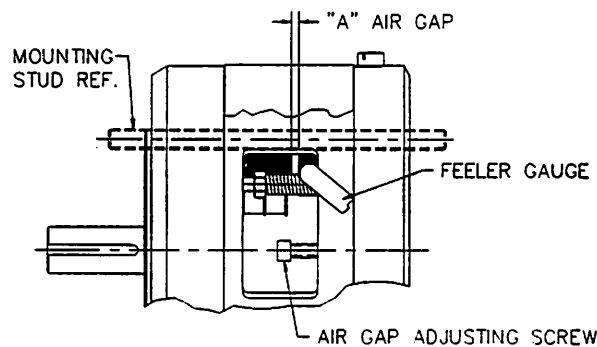

Figure 1.
WEAR ADJUSTMENT (See Figure 1 Below & Exploded View, Page 10.03)
1. To adjust, remove cover (9) to expose adjusting screws magnetic air gap "A."
2. Measure air gap "A" using 3/8" to 1/2" wide feeler gauge as shown in Figure 1.